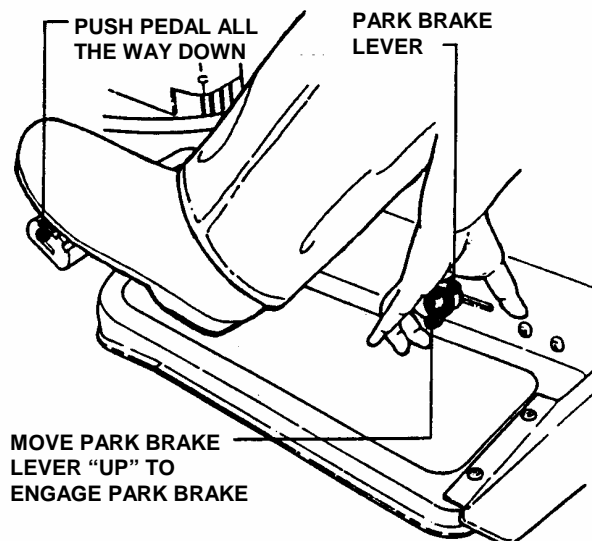

FIGURE 2.12
2. Move park brake lever up into slot. See Figure 2.12.